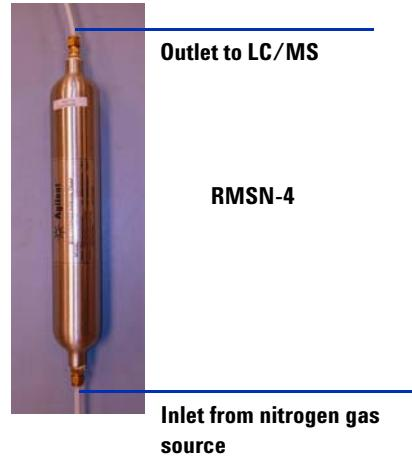

Figure 10 Gas filter connected in series
- b** Use the supplied nut and ferrule kit (5183-0392) to attach the other length of tubing to the RMSN-4 gas filter. This configures the filter in series with the supply tubing. See Figure 10 as an example for assembling the gas trap in the correct configuration.